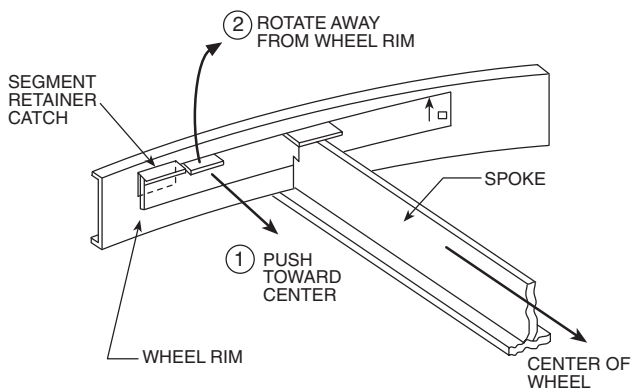

Fig. 77 — Segment Retainer
2. Before applying power to the drive motor, confirm that the wheel segments are fully engaged in the wheel frame and that the segment retainers are completely fastened. (See Fig. 77).
4. If the wheel has difficulty starting, turn the power off and inspect for excessive interference between the wheel surface and each of the four (4) diameter seals. To correct, loosen the diameter seal adjusting screws and back adjustable diameter seals away from the surface of the wheel, apply power to confirm that the wheel is free to rotate, then re-adjust and tighten the hub and diameter seals according to the instructions in the Service section.